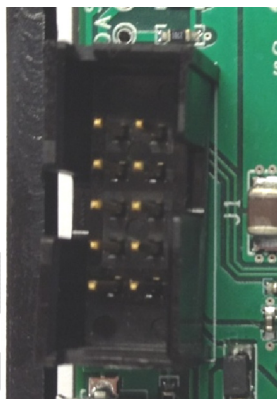

Figure 8. IDTP9022-EVAL JM60 Programmer input 10pin header.
5. Connect the JM60 to the connector on the IDTP9022 CSP DEMO PCB board (J1 Fig 8).